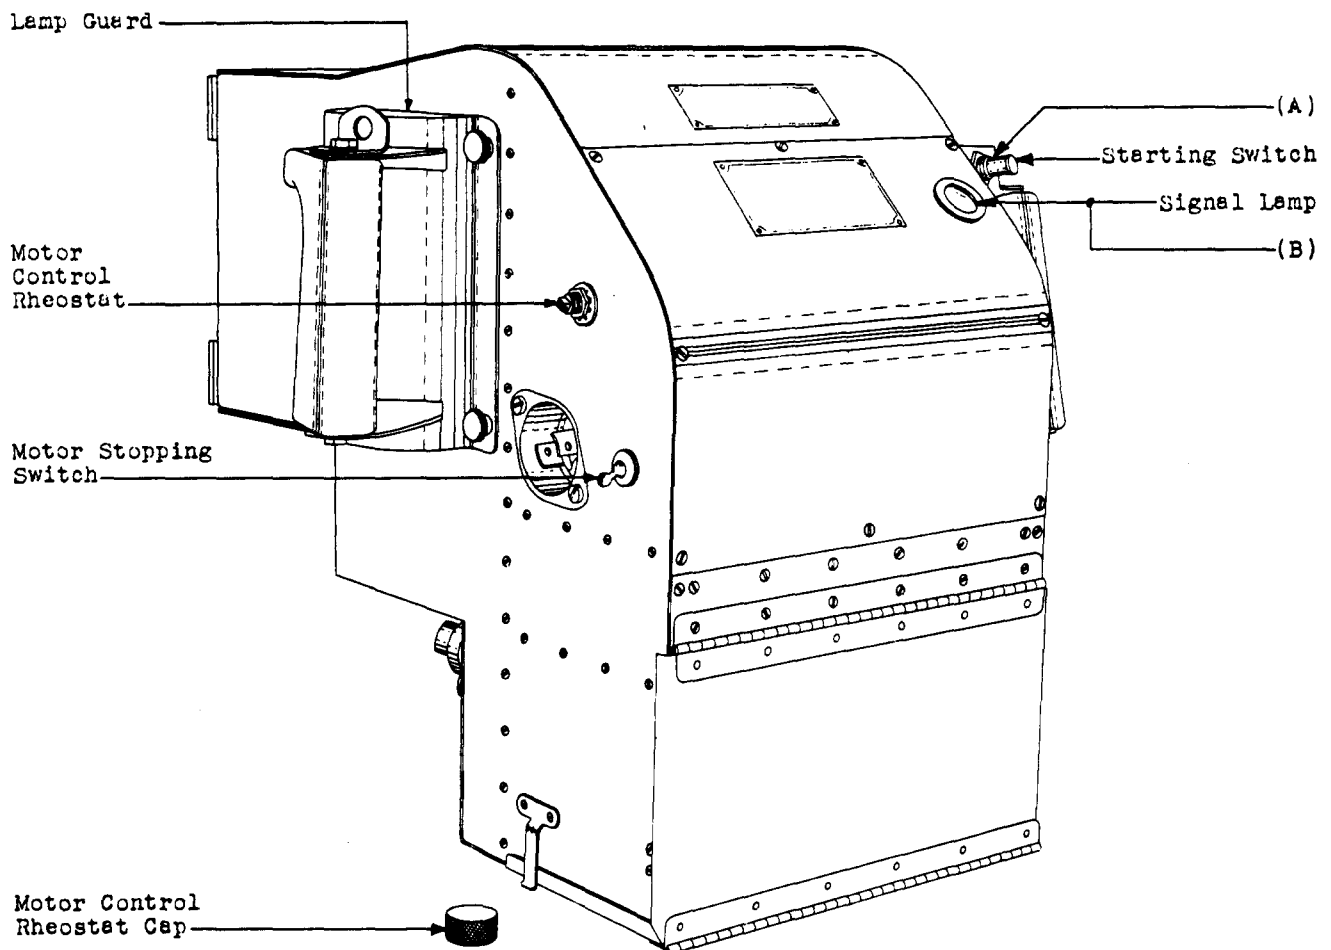

Fig. 1 - KS-8320 Camera
- (5) Starting Switch Plunger - Fig. 1 (A)
- (6) Starting Switch Plunger - Fig. 1 (A)
- (1) To check that the light baffles are satisfactorily positioned, attach a sheet of bond paper to one side of a plate of 1/8" thick glass cut approximately 7" x 9". With the camera lying hood up, place the glass with the bond paper down inside the hood. The glass should be below and make contact with the flat surface which bears against the faces of the message register covers. If the glass fits snugly it will rest on the reflectors. If necessary, fasten the glass in position with a commercial brand of gummed tape. Operate the starting switch and when the photographic lamps light, stop the motor by operating the motor stopping switch. Check that the illumination is approximately uniform over the surface of the plate (there should be no vertical band near the middle of the plate which is darker or lighter than the rest of the plate). This check must be made when looking at the plate from a position directly above it and not from either side of its center.
2.04 Freedom of Movement of Starting Switch, Measuring Roller Release Pin, Pressure Plate, and Film Guide Roller, Fig. 1(A), 2(I) and 6(D) and (E):